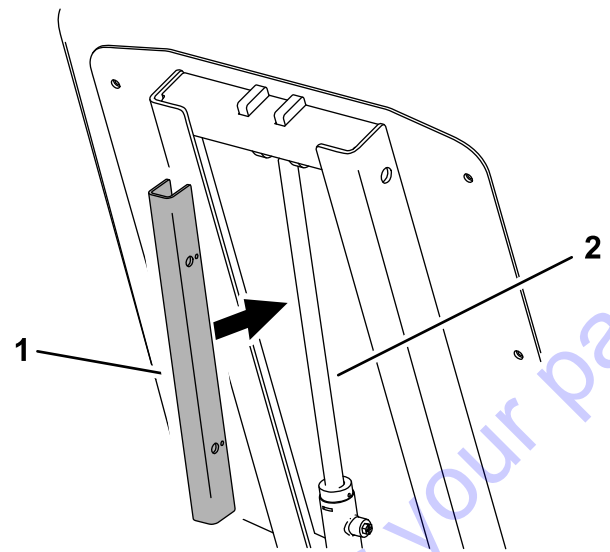

Figure 19
3. Slide the cylinder lock over the lift-cylinder rod and secure with the cotterless pins (Figure 19).